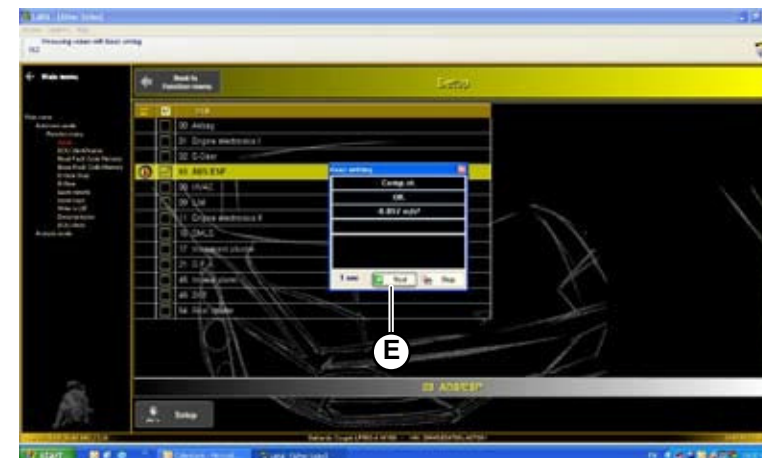

Fig.68
- Wait for the system to process the subsequent screen. Do not press anything (**Fig.68**).